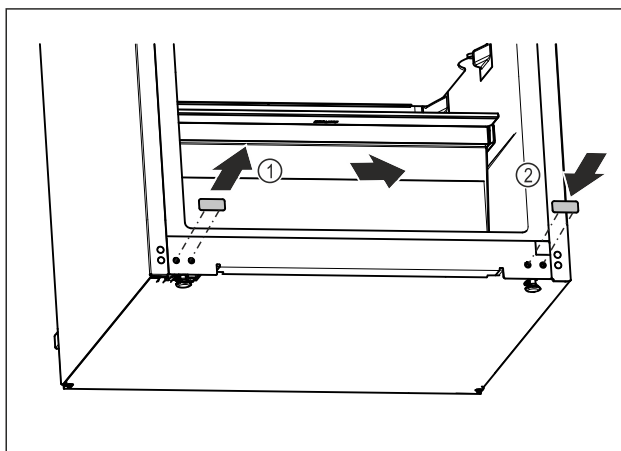

Fig. 19
- Pull out the cover plug. Fig. 19 (1)
- Insert the cover plug on the opposite side. Fig. 19 (2)